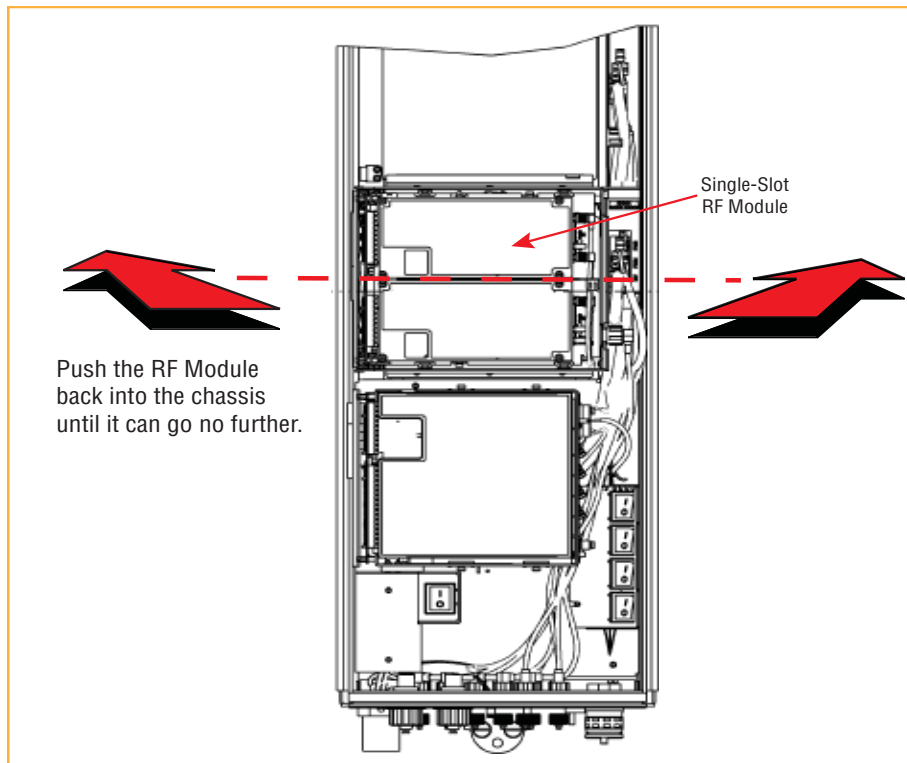

Figure 15. Seating a Single-Slot RF Module
- For Single-Slot RF modules, see Figure 15 on page 30.